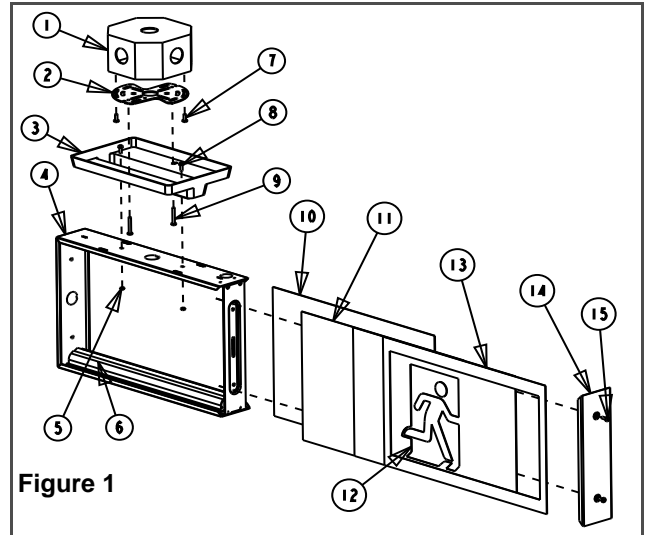

Figure 1
3. To open the unit, remove the end cap screws (see Figure 1) and slide out the clear panel with color trim, one or two pictogram panel(s) and the opal diffuser (note sequence of panels removed).